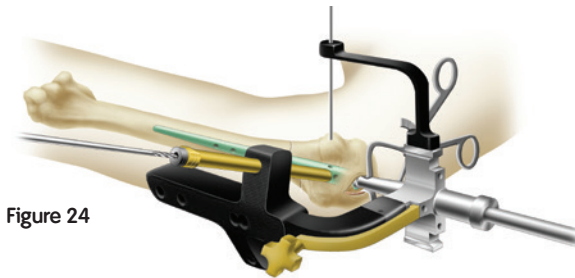

Figure 24
3. Insert the Trocar into the sleeve unit to determine the exact location for the insertion of the locking screw (Figure 24).